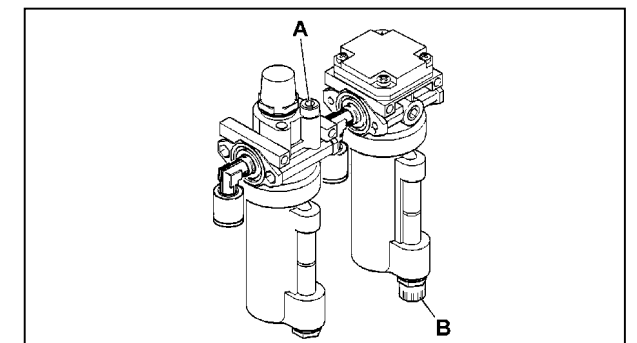

Fig. 26
I. The machine is equipped with an automatic lubricator. Check the oil level weekly. When adding oil to the lubricator, disconnect the air supply first, remove the fill screw 'A', and add 10W Non detergent / air tool oil as needed. Make sure seals are in place when repositioning the cup. Drain water daily from water separator. Do this by pulling down the fitting 'B' (Fig.26).